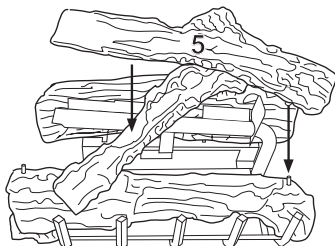

Figure 38 - Installing Log #5, Model CD42M-LS
5. Place log #5 (top log) onto right pin of front log (#2) and smooth surface of rear log (#3). Make sure it is seated properly (see Figure 38).